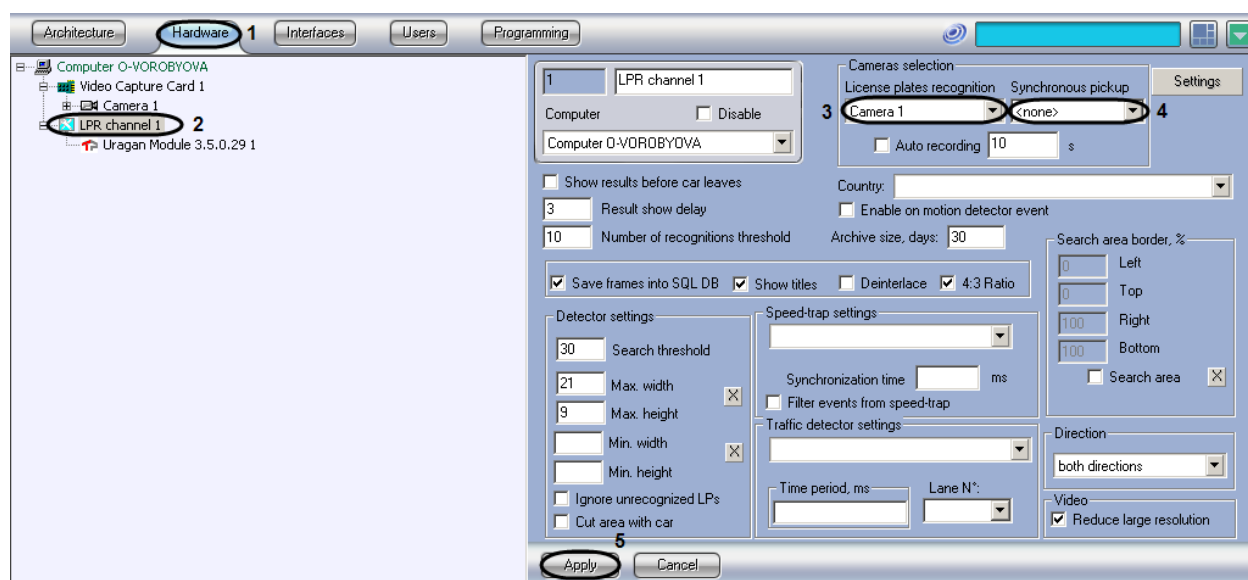

Fig. 7.2—7 Selecting the cameras objects for cooperative work with the LPR channel
2. Select the LPR channel, corresponding to the activated Auto-Uragan 3.5.0.29, CARMEN-parking or CARMEN-Auto module, in the objects tree on the Hardware tab (see. «Program module activation, used for Plates identification»). The settings panel of the selected object will open on the right side of the window (Fig. 7.2—7).